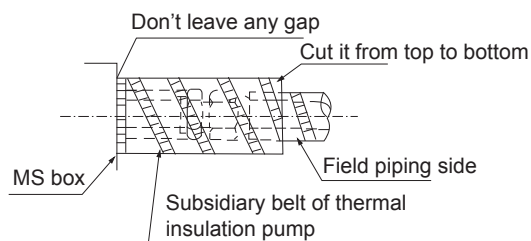

Fig.6-8
3. To prevent condensation, do not leave any gaps between the insulation material and the unit body (See Fig.6-8).